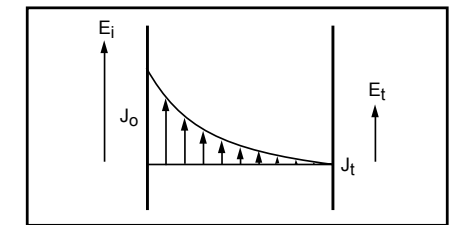

Figure 10-2 Variation of Current Density with Thickness for Electrically Thick Walls
Shielding effectiveness of metallic enclosures is not infinite, because the conductivity of all metals is finite. They can, however, approach very large values. Because metallic shields have less than infinite conductivity, part of the field is transmitted across the boundary and supports a current in the metal as illustrated in Figure 10-2. The
Our conclusion from Figures 10-2 and 10-3 is that thickness plays an important role in shielding. When skin depth is considered, however, it turns out that thickness is only critical at low frequencies. At high frequencies, even metal foils are effective shields.
- On Figure 10-2, locate  $I K I = 2.2 \times 10^{-2}$  on the horizontal scale.